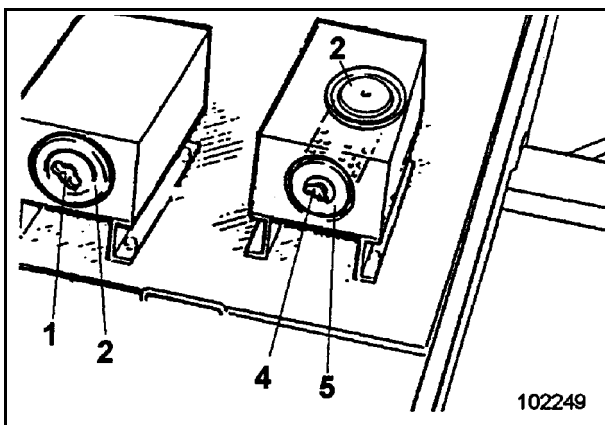

Fig. 3-35:
Each engine is equipped with two dry-air filters (Fig. 3-35:) consisting of main and safety filter element.
- Unscrew nut (1, Fig. 3-35:) and remove cover (2).
- Unscrew nut (4) and withdraw main filter element (5). Do not loose the washer under nut (4).